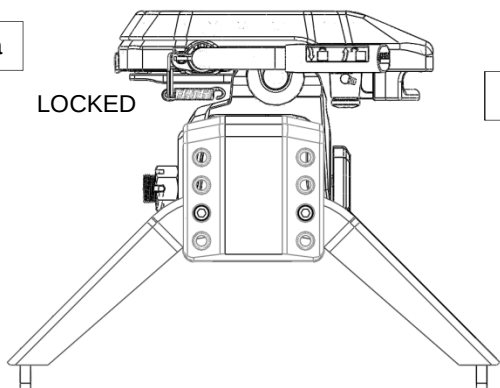

Fig. 10b
3. Rotate hitch handle from locked position (see Fig. 10a) up to the unlocked position (See Fig 10b). This will unlock the jaw system. NOTE: Hitch jaws will not open and proper hitching cannot occur if handle is **NOT** pointed up.
4. With handle in the unlocked position (See Fig. 10b), back truck slowly into trailer. As the trailer king pin enters the hitch it will push the hitch jaws open and extend the handle (See Fig. 12). As king pin completely enters head, jaws will spring closed around king pin and handle will return to the closed position and king pin indicator will extend out from the head assembly (See Fig. 13).